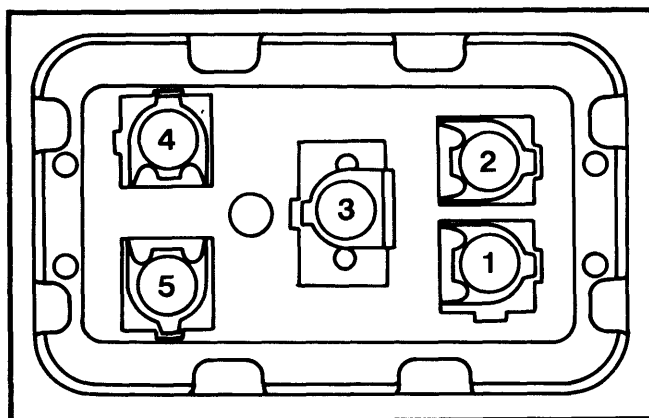

Fig. 4 Dual Pick-Up Start-Run Relay Terminal Locations
1) Turn ignition switch "OFF". Remove 2-wire connector from dual pick-up start-run relay terminals 4 and 5. Using an ohmmeter, connect leads to terminals 4 and 5 of relay. See Fig. 4.